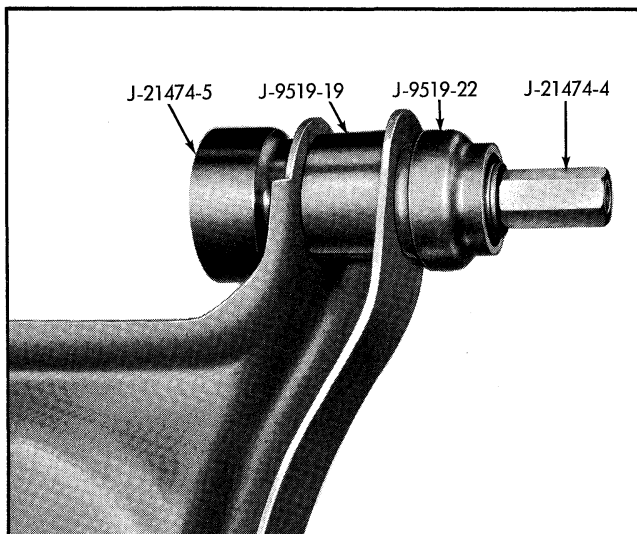

Fig. 3-19 Installing Rear Bushing in Front Lower Control Arm
4. Install new bushing in control arm using components of tool J-21474 as shown in Fig. 3-19.